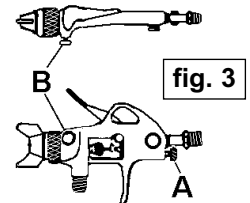

fig. 3
- 6.3.1. If a fluid pressure tank is used, the amount of fluid can be controlled by regulating the pressure on the tank. Otherwise, use the fluid control screw on the gun (fig. 3.A). Turn right to decrease the flow, left to increase.
- 6.3.2. As the width of the spray is increased (with knob fig. 3.B), more material must be allowed to pass through the gun to obtain the same coverage on the increased area.